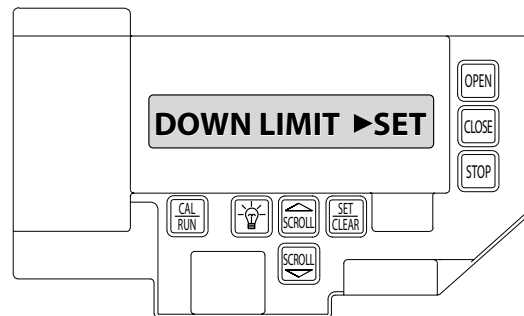

Fig. 7
- 5) Press SET/CLR to switch display to "DOWN LIMIT SET". Fig. 7